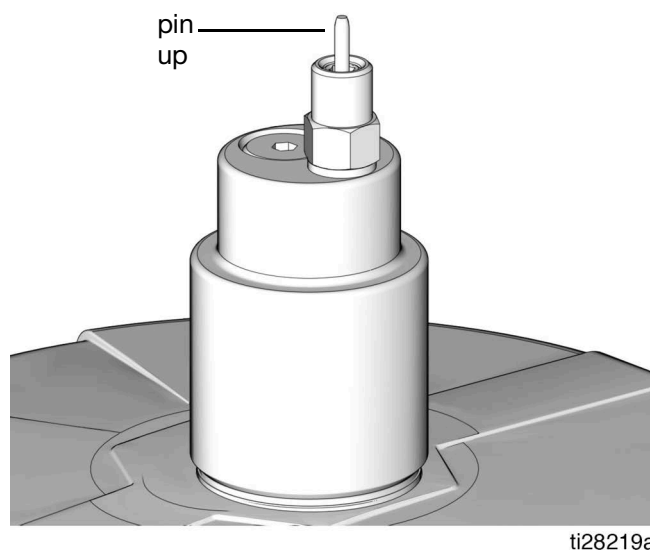

FIG. 24
2. Connect Supply Hose (J) at Quick Connect (V).
3. Turn on remote filling station pump (F) and fill the G3 reservoir (D) until the indicator pin on the Auto-Fill Valve pushes up as shown in FIG. 24. The pressure in the refill pump (F) builds and the pump stalls.